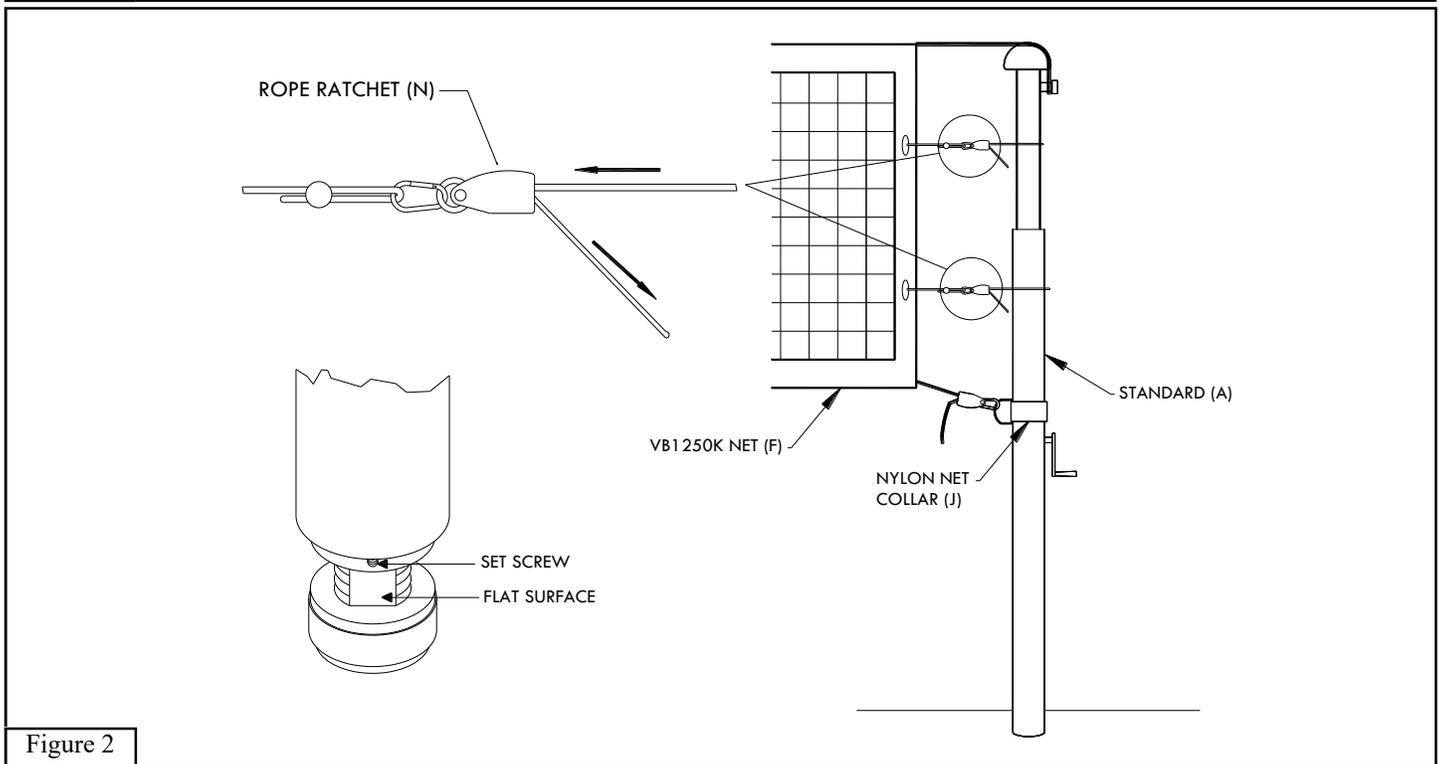

Figure 2
3. Install one of the *Nylon Net Collars (J)* to each *Standard (A)* approximately 2" - 3" below the bottom of the net. Attach the *Rope Ratchet (N)* on the winch end to the D-ring on the collar and attach the other end of the bottom rope to the D-ring using one of the *Carabineers (K)*. See Figure 2.
5. Install the *Rope Ratchets (N)* by running the rope through the small holes in the sides of the *VB1250K Net (F)* and around the *Standard (A)* connecting them to the *Rope Ratchet (N)* and then tighten all four *Rope Ratchets (N)* evenly to achieve desired net tension and maintain proper *VB1250K Net (F)* placement between the *Standards (A)*. See Figure 2.
6. Measure the net height in the center of the net to the floor. If your *Standards (A)* are set to junior height it should measure 7' (84"). Set to women's height it should measure 7'4-1/8" (88 1/8") and if your *Standards (A)* are set to men's height it should measure 7'11-5/8" (95 5/8"). If your measurement is different please write it down and proceed to the next step. If your measurement is correct than you are ready to play.
7. If not at the correct height, compute how much too high or too low, loosen the net on *Standards (A)* and proceed to step #8.
8. Loosen set screw in the collar of the bottom adjustable foot with the 1/8" *Allen Wrench (O)*. Turning the adjustable foot clockwise will lower net height, counter-clockwise will raise net height. Each revolution of the adjustable foot will raise or lower pole by approximately 3/16". Make sure you use full revolutions, the set screw must mate with the machined flat on the adjustable foot to eliminate screw damage. Tighten set screw. See Figure 2.
2. Adjust *Nylon Net Collars (J)* so that they are 2"-3" below the bottom of the net. Crank top rope tight with the *Winch (H)*, then pull bottom rope tight through the *Rope Ratchet (N)*. Reattach *Rope Ratchets (N)*, center the net between poles as in previous instructions and apply desired tension. See Figures 2 and 3.